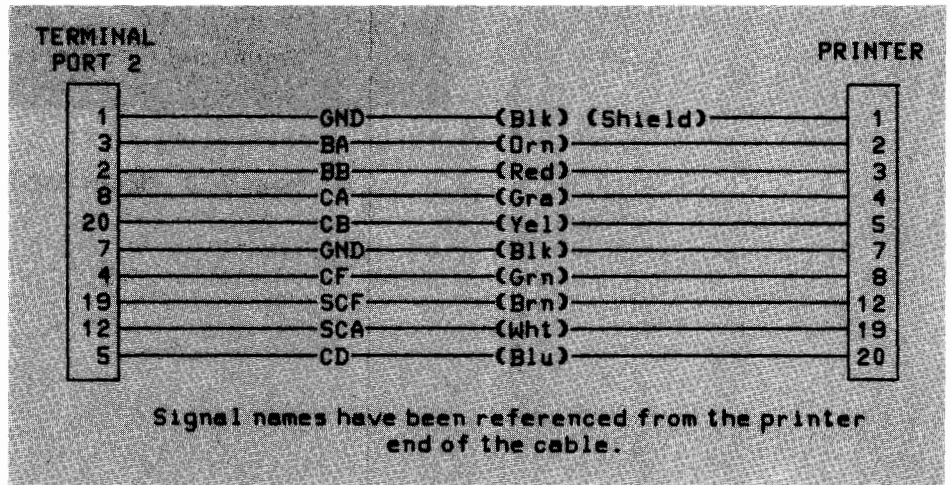

Figure 2-12. 13242G RS232C Printer Cable (Male) Wiring
2. Strip the ends of the cable wires to be used (see figures 2-12 and 2-13) for insertion into pins and clip off all wires which will not be used at the termination of the outer jacket.